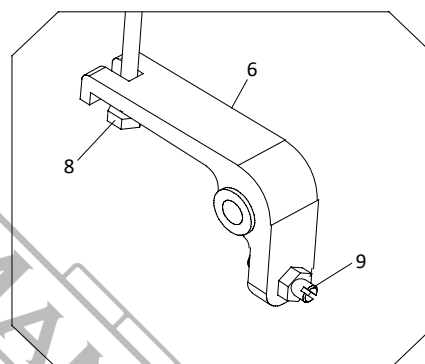

Fig. 4
- After the unit is assembled, check whether the unit is operating properly by rocking the handle and by setting the lever (1) to the lifting (2), free (3), and lowering (4) position.
- The screw 9 in fig. 4 is used to adjust the unit.